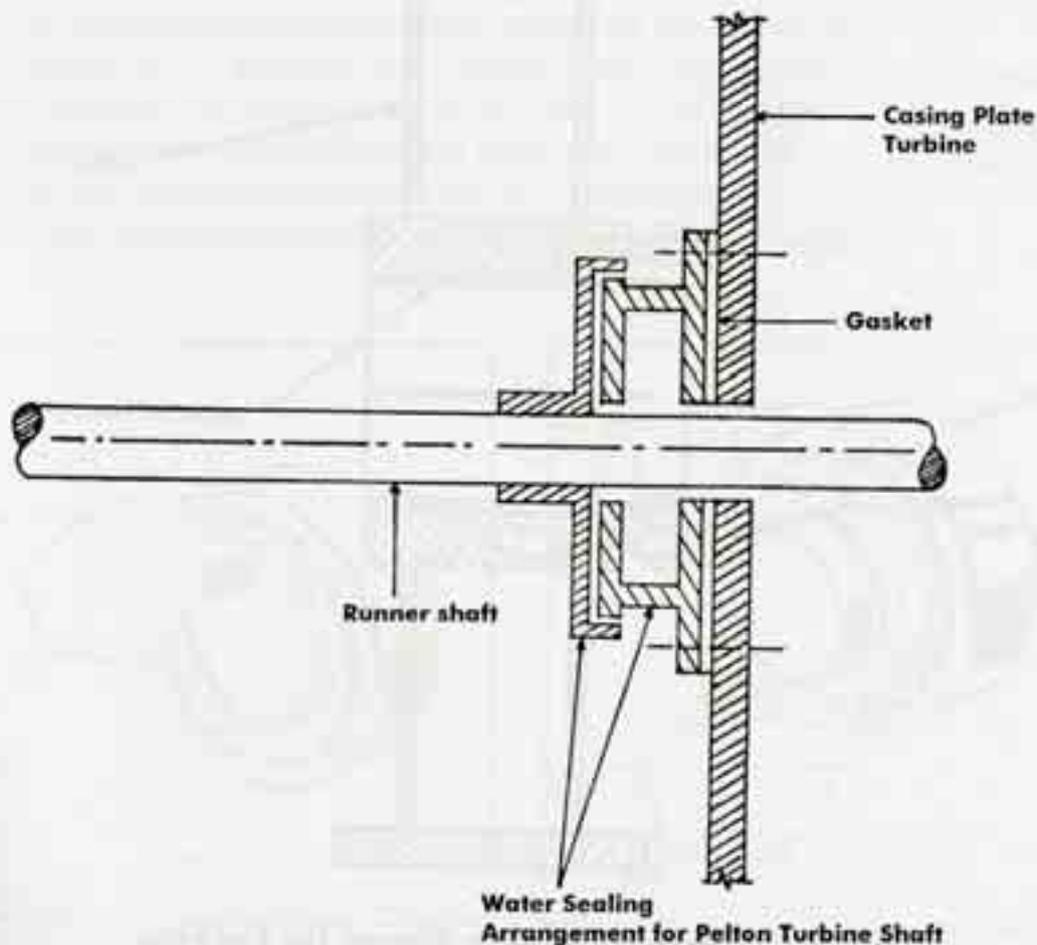

Figure 4.4: Non-Contact Seal for Pelton Turbine Casing
- Bolt sealing device discs into place (Figure 4.4).